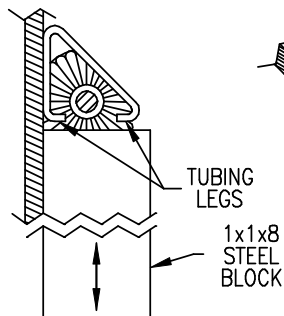

FIGURE 2.9.2
3. SLIDE SEAL END INTO SEAL FRAME SLOT. TAP INTO FINAL POSITION WITH A 1x1/8 PIECE OF STEEL ALONG THE LENGTH OF SEAL; THE SLIDE HAMMER OR STEEL BLOCK SHOULD SLIDE AGAINST THE VERTICAL GATE WALL AND CONTACT BOTH TUBING LEGS SHOWN IN FIGURE 2.9.2 ABOVE.